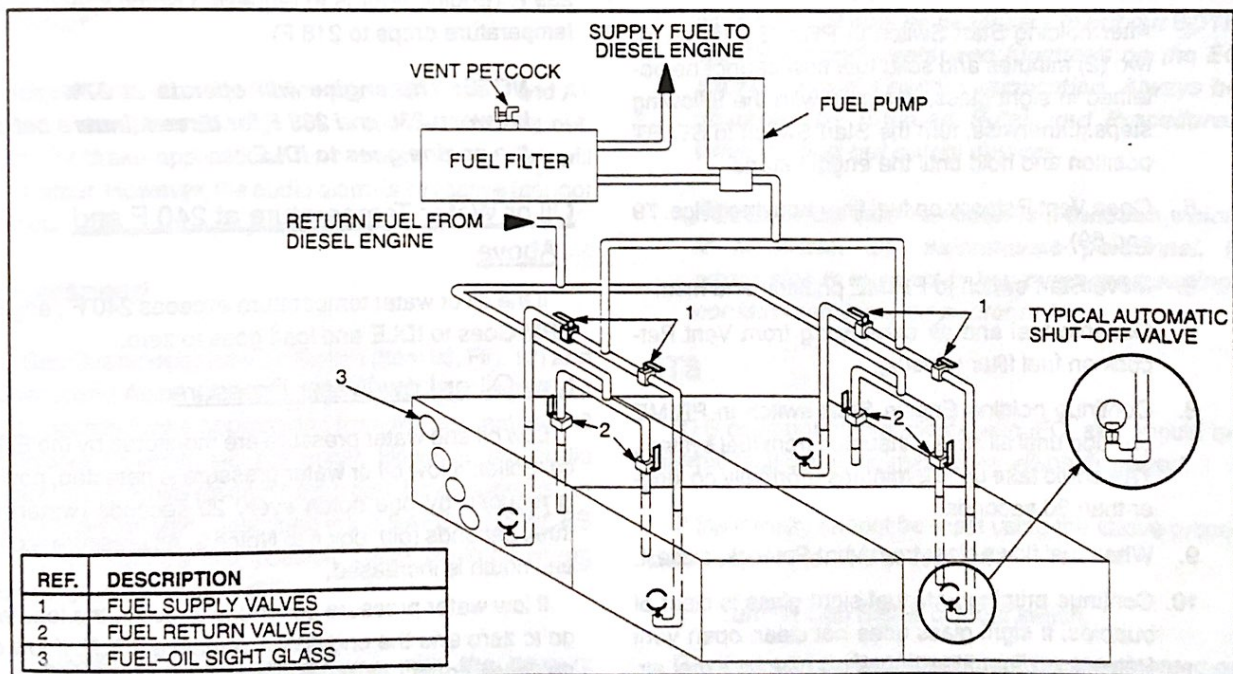

FIG. 79. FUEL TRANSFER SYSTEM. E-42784.
The locomotive fuel tank is divided into four separate compartments. The fuel tank on each side of the locomotive is divided into two compartments (front and rear). Each compartment has a Supply (Item 1, Fig.79) and Return (Item 2, Fig.79) shutoff valve. These valves **must be open** during normal operation. See Fig. 40 for fuel oil piping diagram.
Fuel-Oil Sight Glasses – Mounted in the sides of the fuel tanks (Item 3, Fig.79) to indicate the level of fuel in the tanks. Top glass (per tank) indicates approximately 500 gallons, second glass indicates approximately 315 gallons, third glass approximately 150 gallons and bottom glass approximately 30 gallons.
If one of the compartments is leaking, proceed as follows (Fig. 79):
4. After holding Start Switch in PRIME position for two (2) minutes and solid fuel flow cannot be obtained in sight glass, continue with the following steps. Otherwise, turn the Start Switch to START position and hold until the engine starts.
5. Open Vent Petcock on fuel filter housing (Figs. 79 and 69).